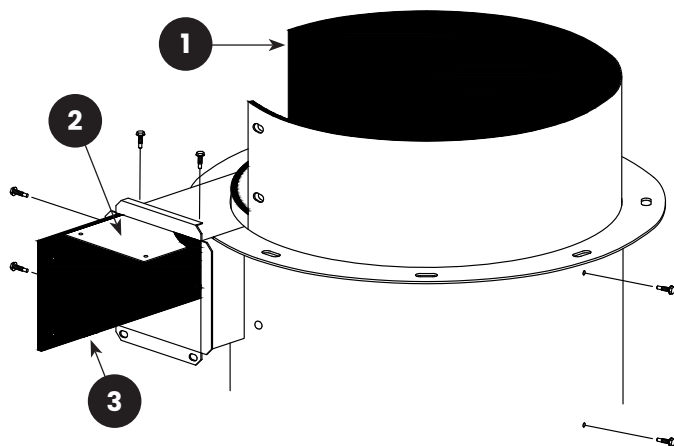

FIGURE 9: (1) Wall Liner; (2) Inlet-Top Liner; (3) Inlet-Side Liner
7.4.11 | Remove the screws holding the inlet side liner and inlet top liner, and remove both liners from the reclaimer inlet, as shown in **Figure 9**.